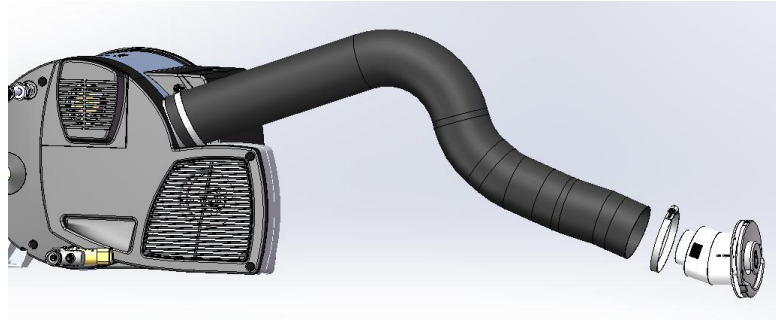

Fig 8
2. The intake pipe is installed outside the exhaust pipe, one end is fixed on the air intake of the boiler unit, and the other end is fixed on the intake and exhaust port body. The middle part of the intake pipe needs to be fixed with clips to prevent vibration. Figure 8.